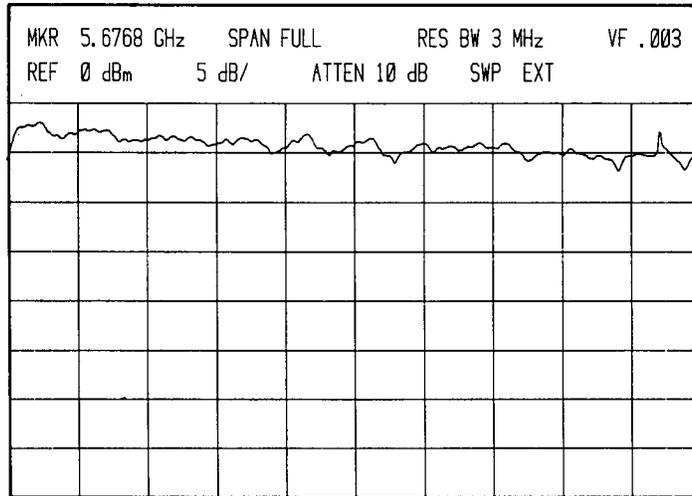

Figure 5-46. Phase Locked Spectrum Analyzer CRT Display
- d. Set sweep oscillator to automatic sweep mode and check for phase locked spectrum analyzer CRT display (Figure 5-46). If system is breaking phase lock, adjust start and stop frequencies during slow sweep ( $\geq 10$  seconds) to obtain phase lock. Set TRACE A and TRACE B to WRITE.